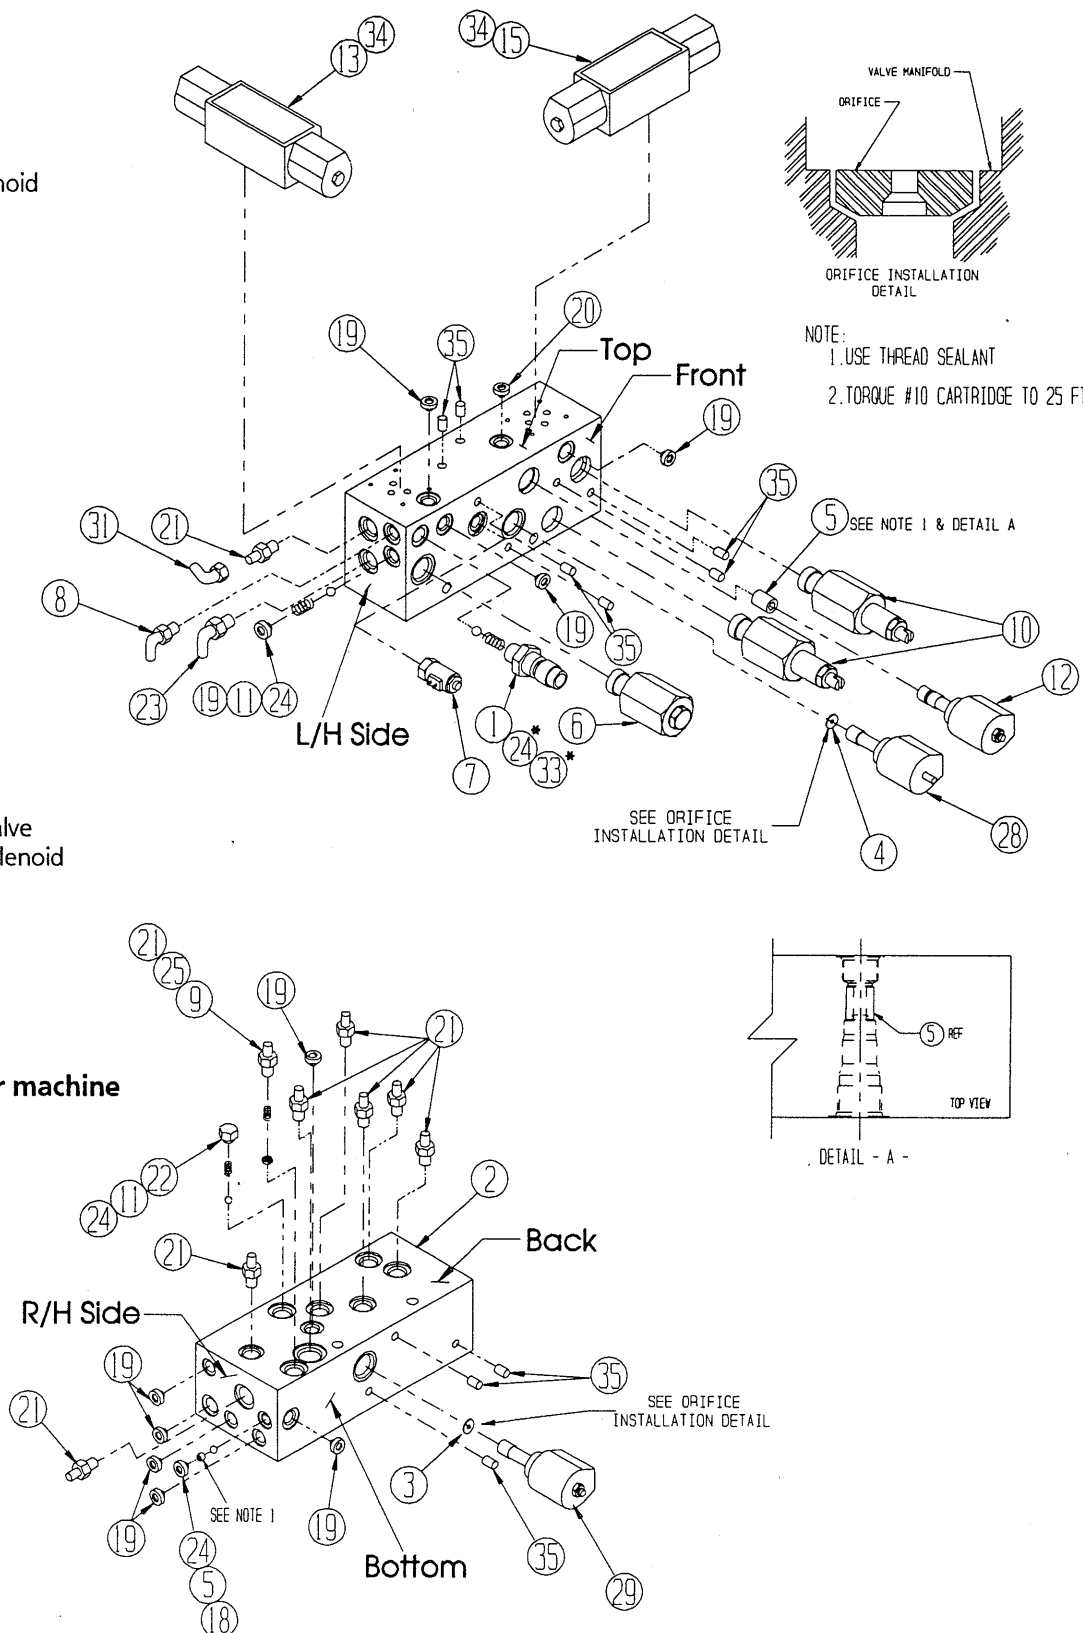

Figure 4-8: Hydraulic Manifold, Exploded View
4.7 Hydraulic Manifold (Figure 4-8)
NOTE: Mark all components as they are removed so as not to confuse their location during assembly. Refer to Figure 4-8 often to aid in disassembly and assembly.